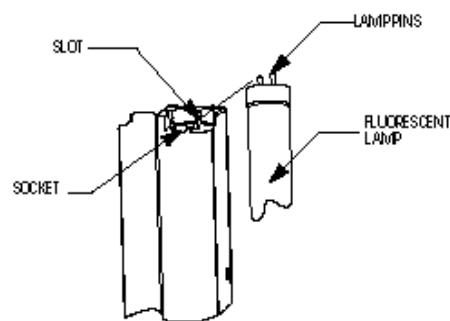

Fig. 4
- Position pins in each end of lamp straight into SLOT in each SOCKET and twist lamp counterclockwise until lamp snaps into position (twist lamp approximately 90°). (Fig. 4)